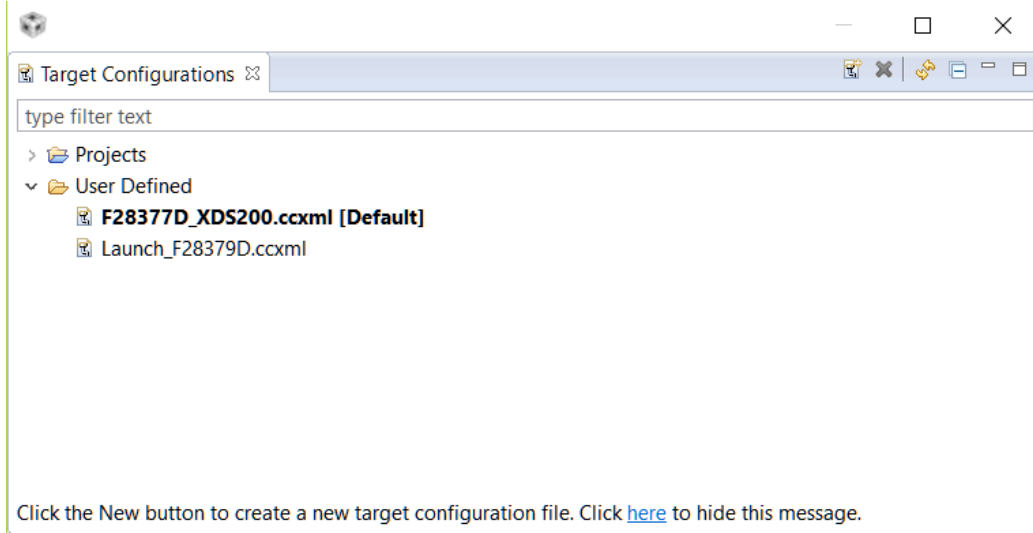
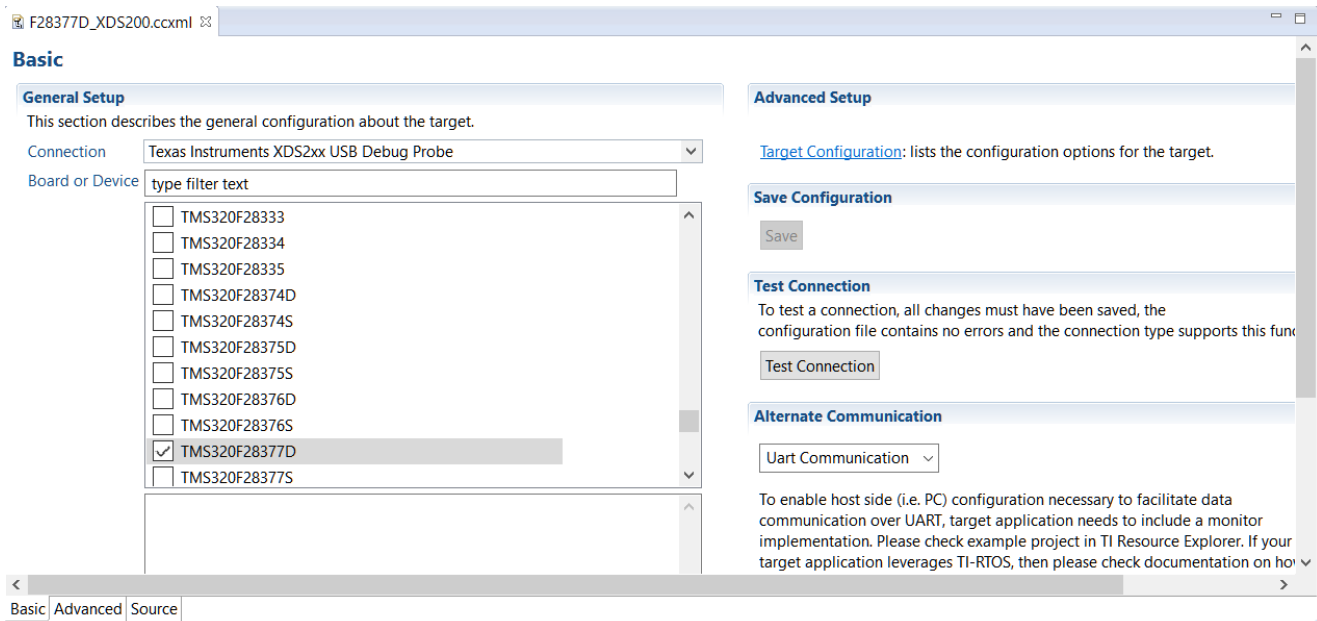

Figure 7-2. Target Configurations View
Figure 7-3. Test Connections
- Check Target Configuration:** The Target Configuration File (.ccxml) contains the information necessary to connect to your target device and the JTAG debug probe being used. To view the current target configurations, select Target Configurations (Figure 7-2) under the "View" tab in CCS. Double click on the .ccxml corresponding to the target that is being debugged. If the drivers for the debug probe are installed correctly and the correct options are selected, the *Test Connections* button (Figure 7-3) is available and ready to execute. The datalog from this test can assist in isolating the cause for the connection issues, do not skip this step. Many example projects are installed as part of C2000Ware or controlSuite have a *target configs* folder. This has a .ccxml file pre-created based on a an assumption of a default EVM and debugger. This file is used when the *Debug* icon is used to launch the debug session. If the *Debug* button is the desired method to launch the debug session, the .ccxml in *target configs* need to be modified.